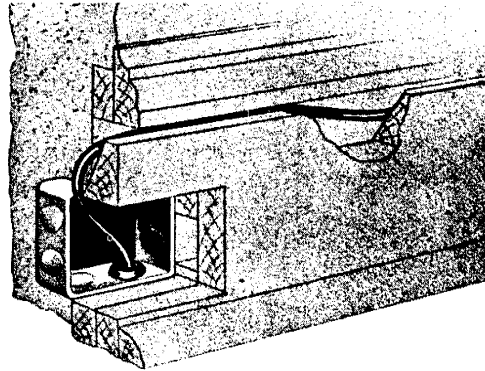

Fig. 8 — Wiring from Conduit to Baseboard
- Run wires along baseboards, on top of picture moldings, or on door or window casings, so that they will be as inconspicuous as possible (see Fig. 8, 9. and 10).